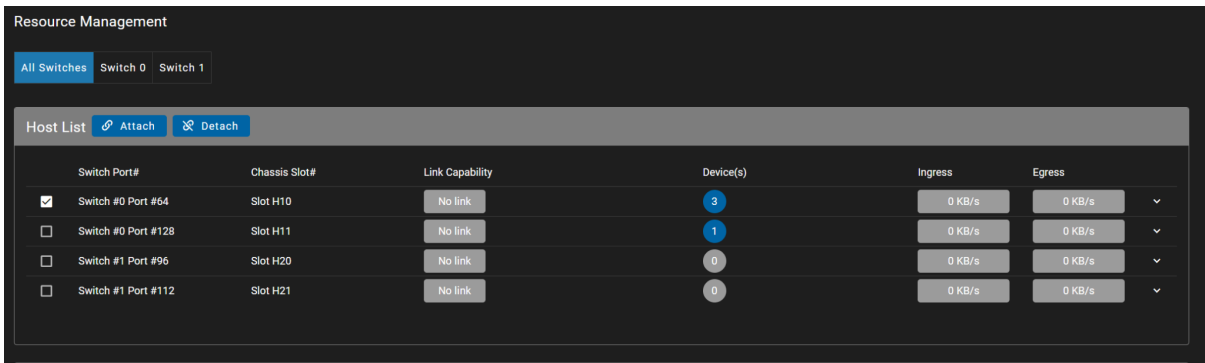

Figure 73. Accessing the Unassignment Page via the Detach Tab
- C. Click the Detach tab to access the unassignment page (refer to Figure 73).